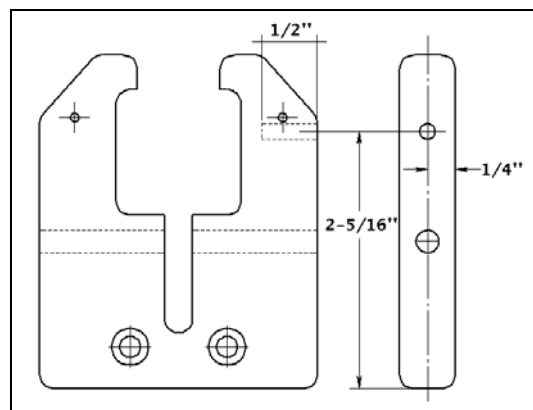

Figure 1 – Hole Placement
3. Drill a hole, 1/2" deep, in the narrow, presenting side of the Counter Bracket. Please see the measurements in Figure 1 to insure correct alignment of the Tensioner on the Bracket.